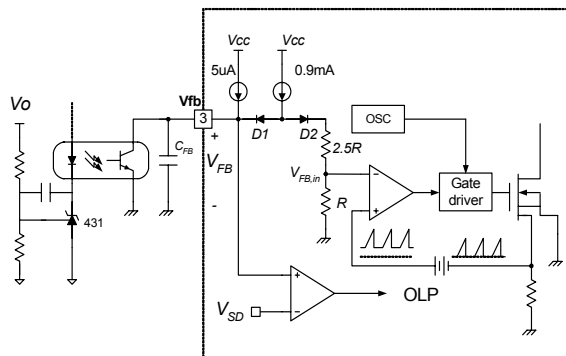

Figure 5. Pulse Width Modulation (PWM) Circuit
2. Feedback Control : The FSDx0365RN employs current mode control, as shown in Figure 5. An opto-coupler (such as the H11A817A) and shunt regulator (such as the KA431) are typically used to implement the feedback network. Comparing the feedback voltage with the voltage across the Rsense resistor plus an offset voltage makes it possible to control the switching duty cycle. When the KA431 reference pin voltage exceeds the internal reference voltage of 2.5V, the optocoupler LED current increases, the feedback voltage Vfb is pulled down and it reduces the duty cycle. This event typically happens when the input voltage is increased or the output load is decreased.
4.4 Over Voltage Protection (OVP) : In the event of a malfunction in the secondary side feedback circuit, or an open feedback loop caused by a soldering defect, the current through the opto-coupler transistor becomes almost zero (refer to Figure 5). Then, V_{FB} climbs up in a similar manner to the over load situation, forcing the preset maximum current to be supplied to the SMPS until the over load protection is activated. Because excess energy is provided to the output, the output voltage may exceed the rated voltage before the over load protection is activated, resulting in the breakdown of the devices in the secondary side. In order to prevent this situation, an over voltage protection (OVP) circuit is employed. In general, V_{CC} is proportional to the output voltage and the FPS uses V_{CC} instead of directly monitoring the output voltage. If V_{CC} exceeds 19V, OVP circuit is activated resulting in termination of the switching operation. In order to avoid undesired activation of OVP during normal operation, V_{CC} should be properly designed to be below 19V.